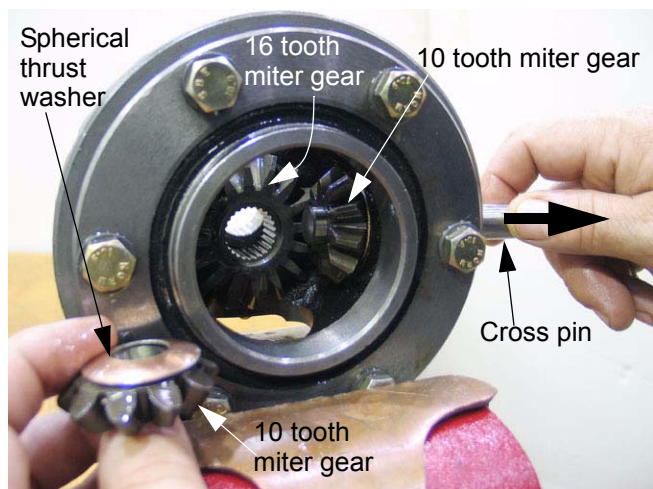

Figure 9.27
9.27. With the cross pin removed, the 10 tooth miter gears, and the spherical thrust bearings that fit behind them can be removed. See Figure 9.27.